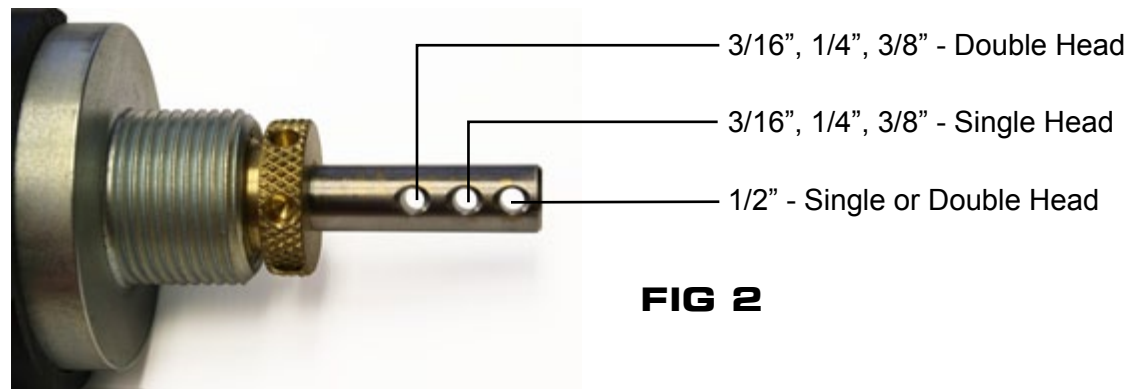

FIG 2
- 2** Bolt holes are provided for a permanent mounting (fig 2.)
3	Insert the plunger into the hole in the plunger connector and line up the cross drilled hole in the plunger pin through the plunger connector and center hole of the plunger. See FIG 2.